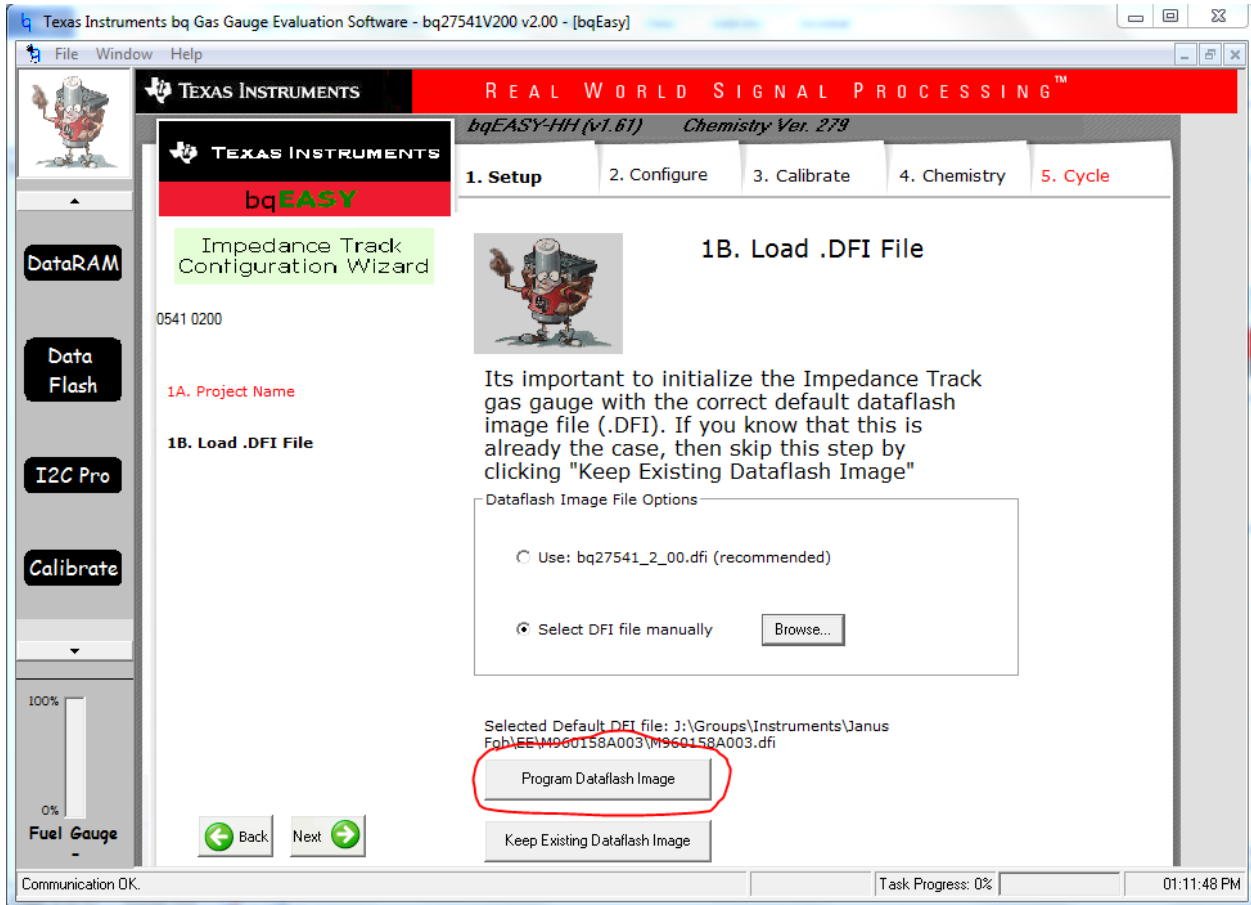

Figure 6: Program Dataflash Image in bq Evaluation Software
8. Click the Program Dataflash Image button as shown in Figure 6.